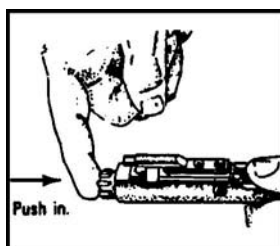

Figure 13. Bolt in the locked position.
- k. Put the bolt assembly in the locked position by pushing in the bolt (Figure 13).